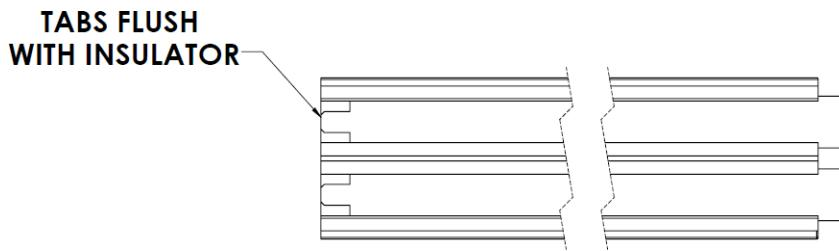

Figure 29: ***Male Terminal Tabs Flush with the Plastic Insulator***
- Push in the protruding male terminal tabs on the TransStrip so they're flush with the plastic insulator (Figure 29).